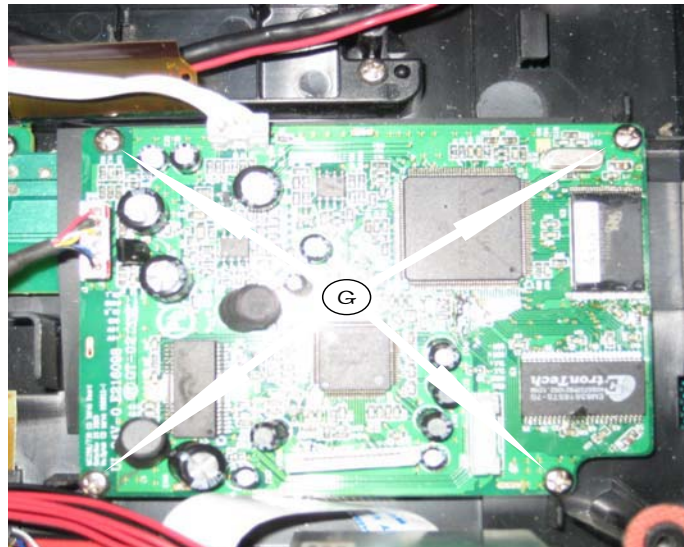

Figure 7
- 1) Loosen 4 screws "G" to detach CD Servo Board as shown in figure 7.